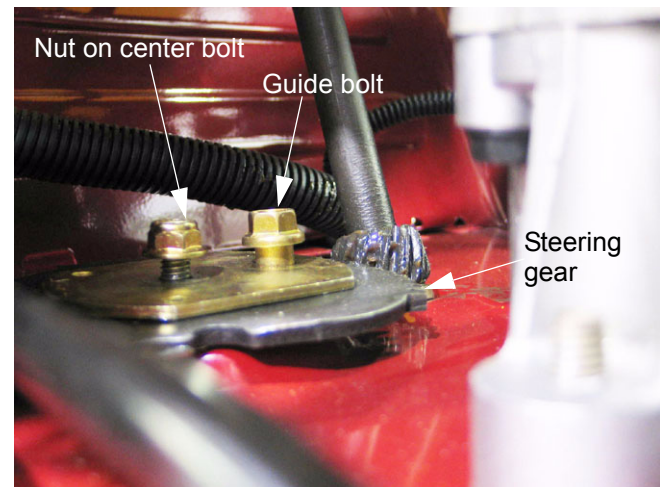

Figure 15.12
15.12. To remove the steering gear, loosen and remove both bolts that hold it in place using a pair of 1/2" wrenches. See Figure 15.12.